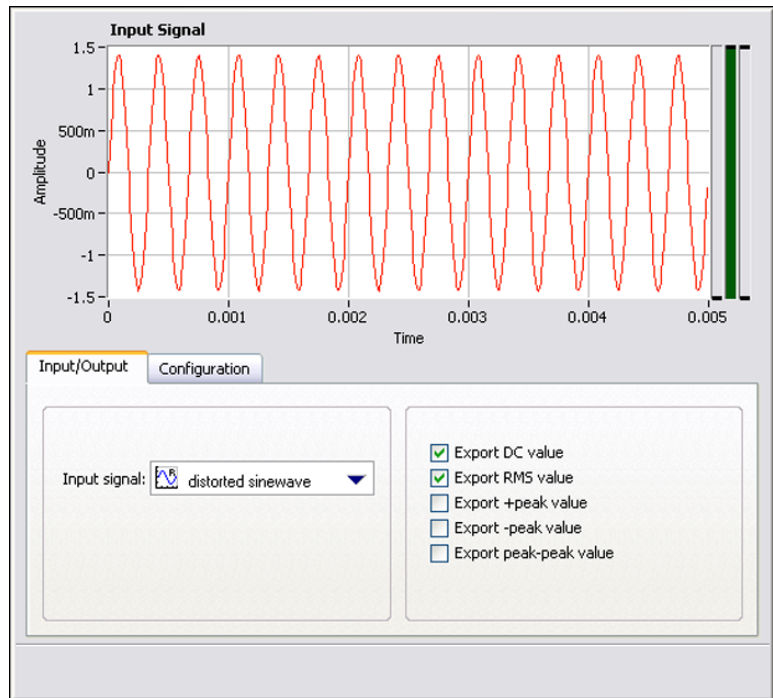

Figure 3-4. Amplitude and Levels Step Setup Dialog Box
- Click the **Input/Output** tab to display the list of possible inputs and outputs for this step, as shown in Figure 3-4.